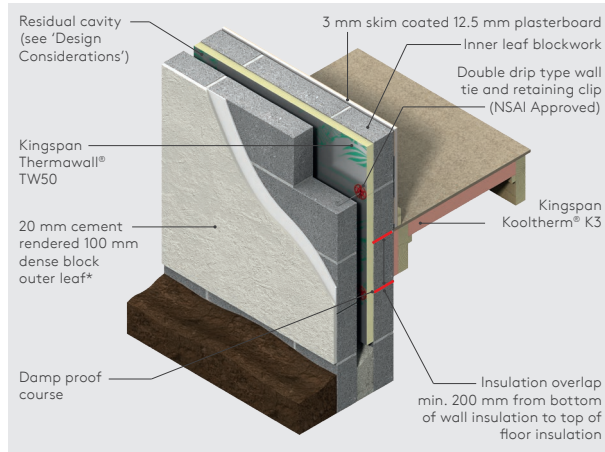

Figure 2
- The key factor is the distance between the bottom of the cavity wall insulation and the top of the floor insulation (including any perimeter insulation upstand). In order to minimise cold bridging at the edge of ground floors, the distance between the top surface of the floor insulation or perimeter insulation upstand, and the bottom of the wall insulation must be a minimum of 150 mm for a concrete floor (see Figures 1 & 4) and 200 mm for a suspended timber floor (see Figures 2 & 5). The further appropriate wall insulation extends past the floor insulation, the better the thermal performance of the junction between the wall and the floor.